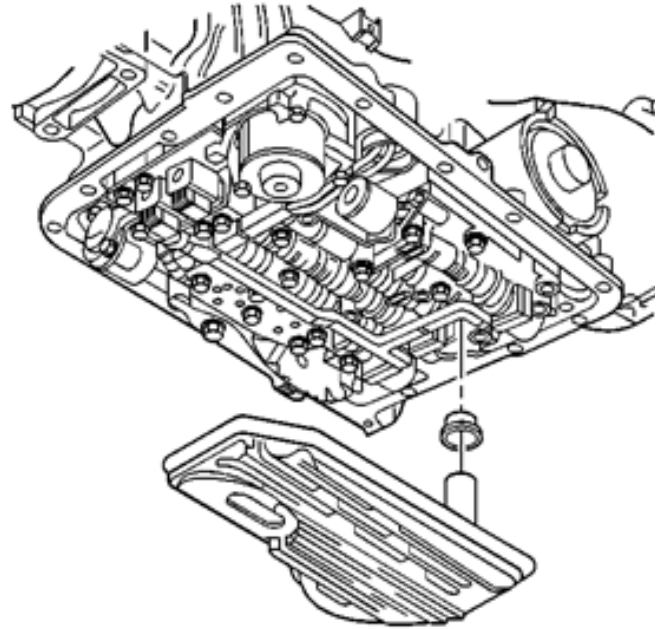

Figure 4
9. Grasp filter firmly while pulling down with a twisting motion in order to remove the filter. **Reference Figure 4.**